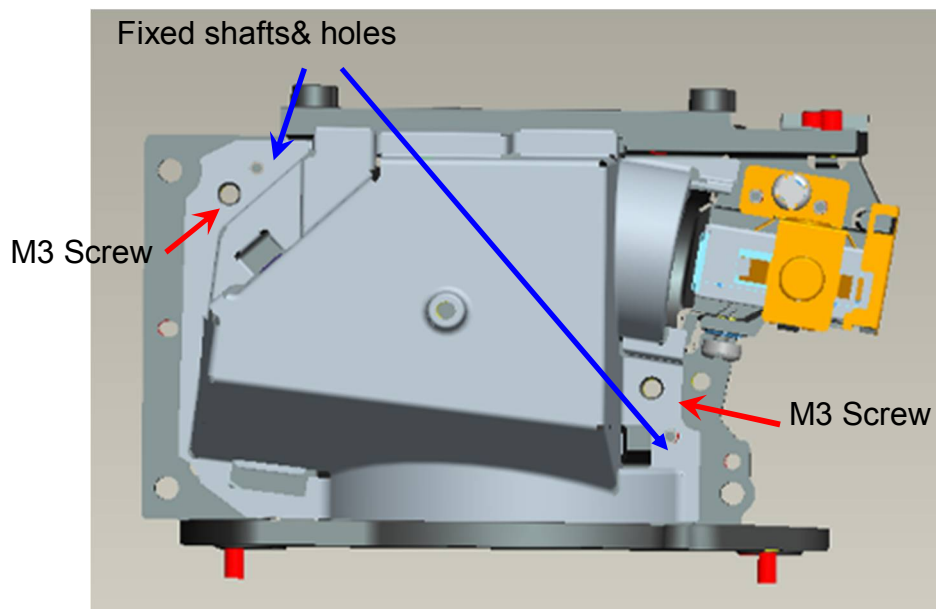

Fig. 3-2-2
- C. To assemble ”HSG ILL SUB Module” with “HSG DMD” and cover over on “AL” and the lock with screws (Fig.3-2-2).